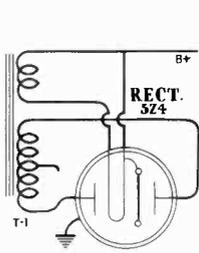

Figure 1
- (1) The schematic and wiring diagrams for metal rectifier socket are shown by figures 1 and 2.
- (2) Washer Stock No. 11886 should be used for replacement instead of Stock No. 11230 in all Models T6-1 and C6-2. See parts list herein for description and price.
- (3) Refer to Substitute and Additional Replacement Parts contained herein for other parts changes.
- (2) The phonograph motor is of the capacitor type. Light machine oil should be used to lubricate the motor bearings. The motor is wired in this instrument as follows: One power-supply lead connects to one terminal of switch S-14. The other terminal of S-14 connects to one terminal of the brake switch S-15. The other terminal of S-15 connects to the yellow motor lead. The green motor lead connects to one lead of the motor capacitor. The red motor lead connects to the other capacitor lead and also to the remaining power-supply lead.
- (3) Change description of Stock No. 8053 to read: Indicator—Station selector vernier indicator pointer—\$0.12.
- (4) Stock No. 11793 applies to all Models D11-2. See parts list herein for description and price.
- (5) Change price of Stock No. 11541 Arm—Eject arm from \$0.82 to \$8.15.
- (6) Change description of Stock No. 9620 to read: Reproducer, complete (without cloth screen) \$16.32.
- (7) Refer to Substitute and Additional Replacement Parts contained herein for other parts changes.
- (2) Refer to Substitute and Additional Replacement Parts contained herein for other parts changes.